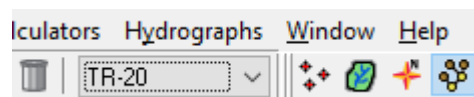

Figure 2 Model list drop-down
6. Select “TR-20” from the Model list drop-down (Figure 2).